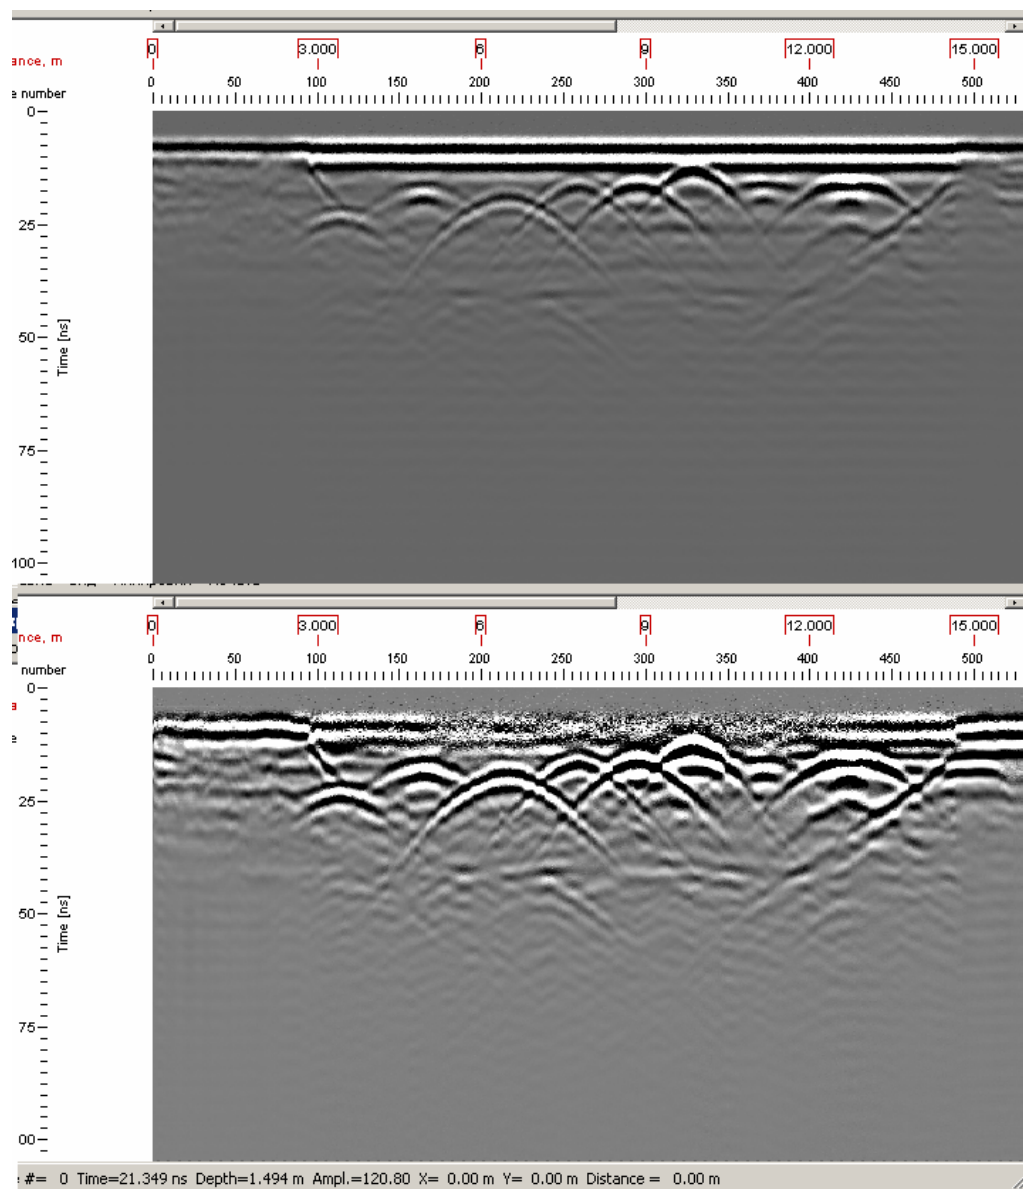

Fig. 5.5.13 – 2D filter application in a subtraction mode. Above – initial data, below – data after the “2D Filtering” routine application.
- In the “Subtraction” mode in the center of 2-D filter the calculated value is subtracted from the input value, thus the “differential” data set remains. This mode can be used instead of “Background removal” routine and in many cases can provide better results (see the example on Fig. 5.5.13).